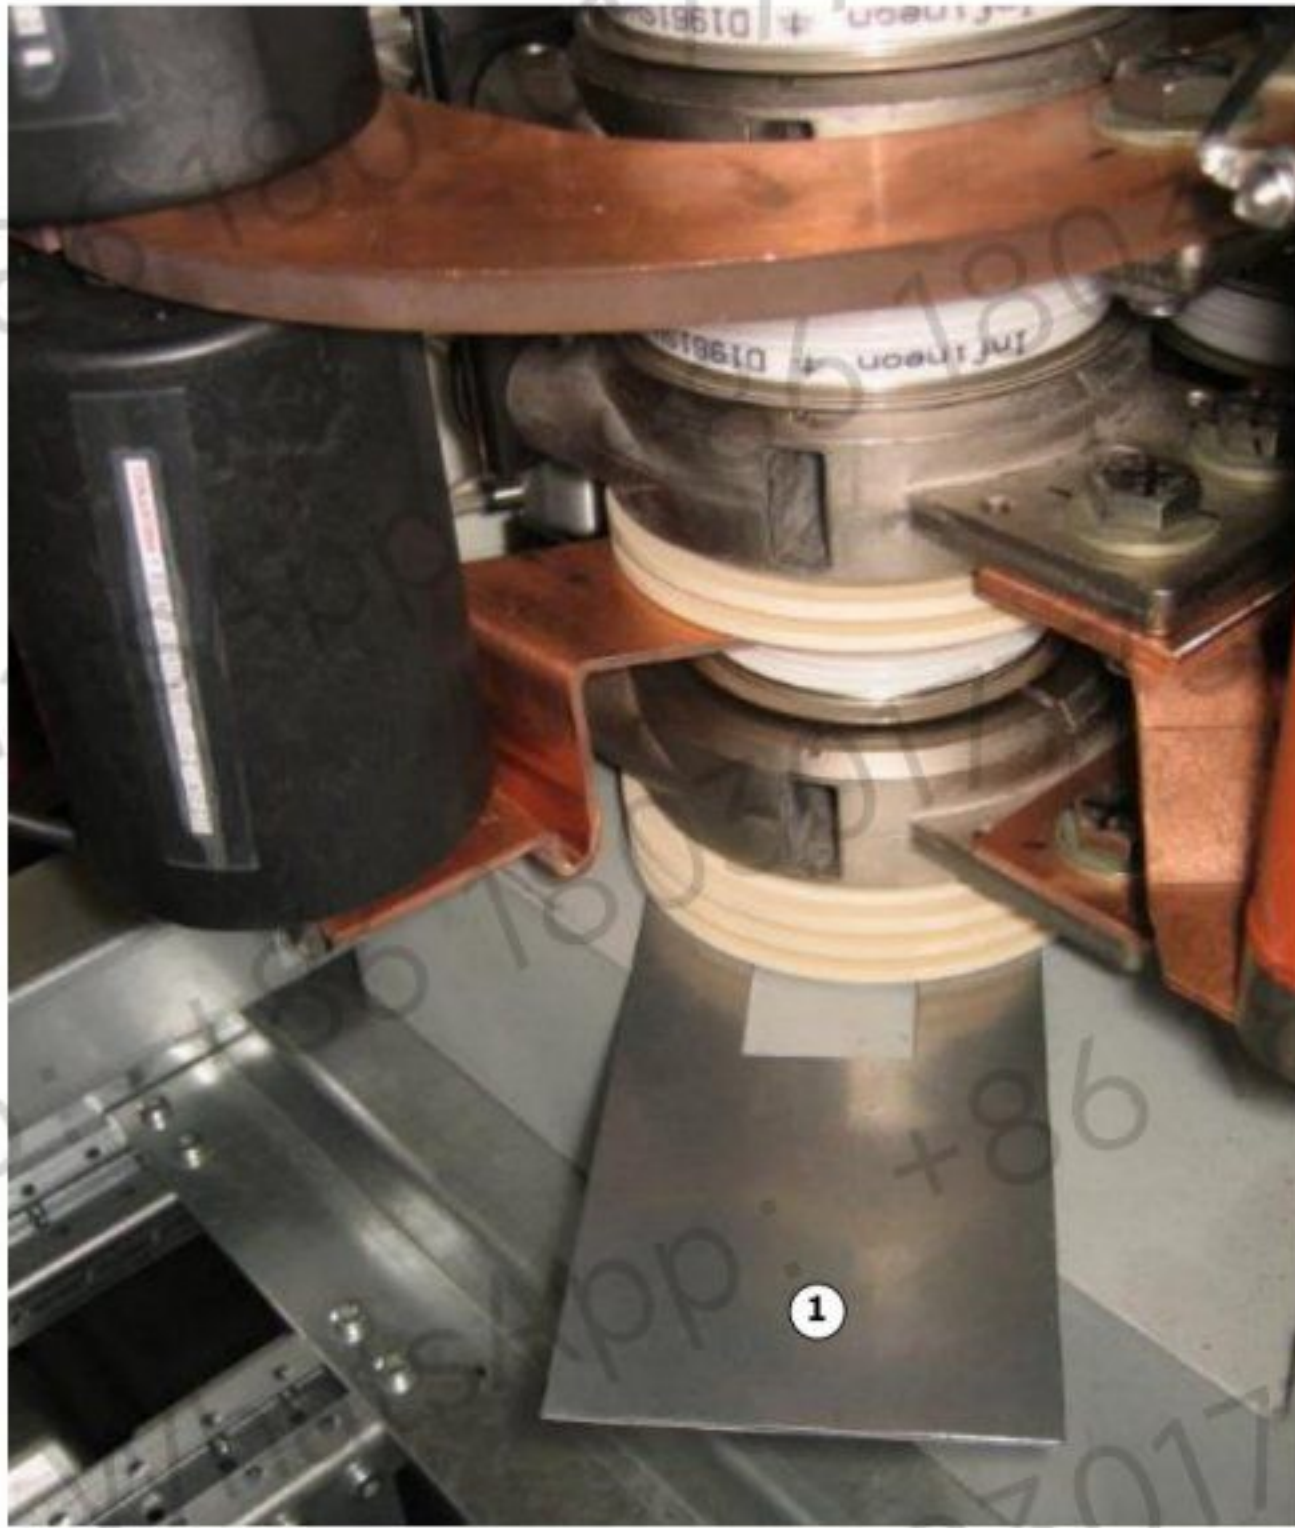

Figure 10–7 Stabilizer plate insertion
6. Enter a stabilizer plate in the bottom of the stack where a semiconductor needs to be exchanged as shown in Fig. 10–7.